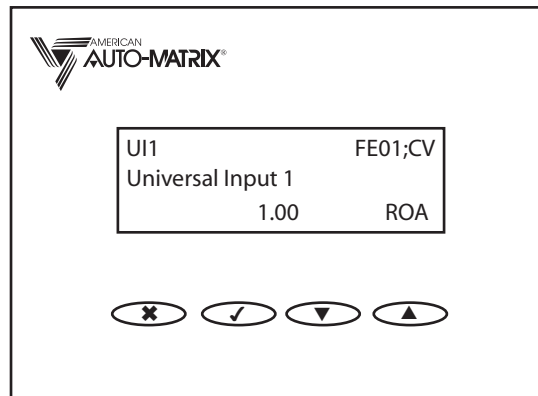

Figure 4-6 Control Monitor Screen
The Control Monitor Menu allows you to select the type of channel whose **CV** attribute you wish to monitor. You may choose Universal Inputs (UI), Digital Inputs (DI), Analog Outputs (AO), or Digital Outputs (DO). Use the ▲ and ▼ buttons to highlight the type of channel you wish to monitor and press the ✓ button to select that type. Once you have selected the type of channel to monitor, you will see the Control Monitor screen shown in Figure 4-6.